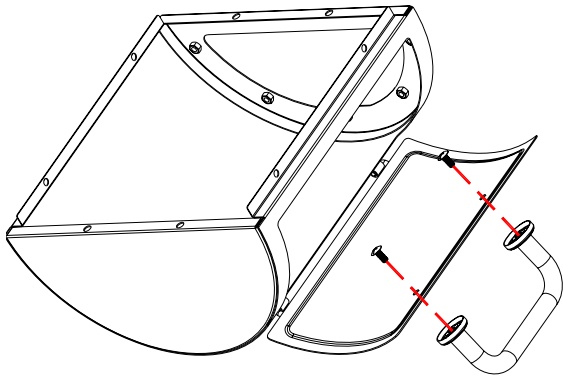

Fig.10
Refer to Fig.10 Lift the Lid up and insert (2) M6x15 bolts from the INSIDE of the Lid then attach the Handle and Lid.